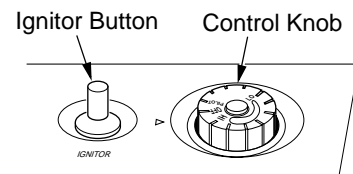

Figure 19 - Control Knob In The OFF Position
4. Wait five (5) minutes to clear out any gas. Then smell for gas, including near the floor. If you smell gas, **STOP!** Follow "B" in the safety information above. If you don't smell gas, go to the next step.
5. Turn control knob counterclockwise  to the PILOT position. Press in control knob for five (5) seconds (see Figure 19).